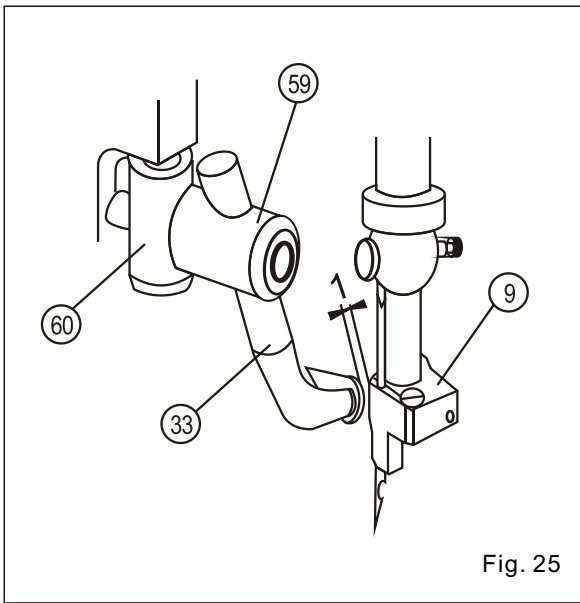

Fig. 25
(4) Adjustment may be completed by turning the base of upper thread hook (No. 59 in Fig. 25), as indicated in Fig.
(5) At the end of the second cycle, the upper thread hook returns to the starting point. From the second cycle, turn the handwheel to make the back of close needle sleeve (No.9 in Fig. 25) forming up a straight line with the upper thread hook. Adjust the horizontal position and keep 1mm space between the back of upper thread hook and the back of close needle sleeve.
This may be completed by the base of upper thread hook (No.59 in Fig. 25) in the moving stand (No.60 in Fig. 25), as indicated in Fig. 25.